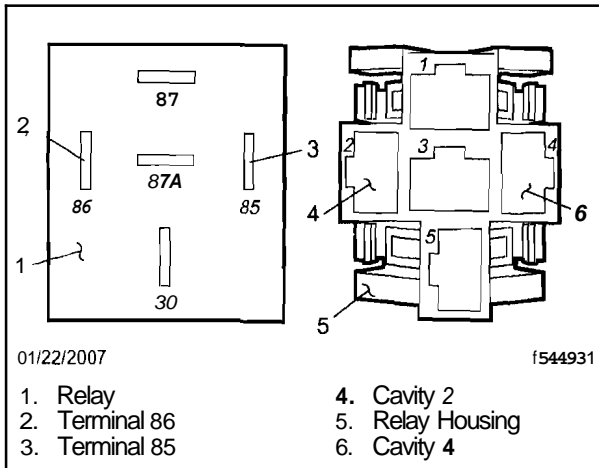

Fig. 12, Relay and Relay Housing Connections
6. Attach a large terminal to the other end of the white wire, then insert it into cavity 2, terminal 86, of the relay housing. See **Fig. 12**.
7. Prepare a 16-gauge brown wire with a large terminal, then insert it into cavity 4, terminal 85, of the relay housing. See Fig. 12.